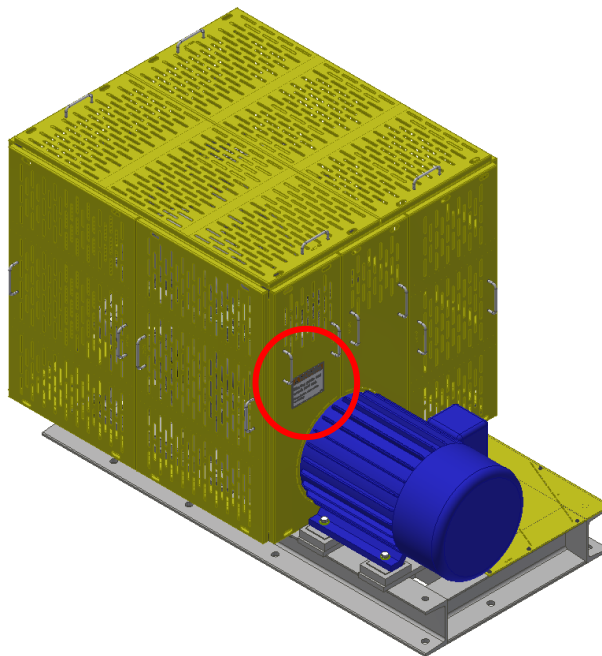

Figure 34: Attach Warning Label
- Attach self-adhesive Warning Label (p/n P-184) to one of the Machine Guard Motor Panels in similar location as illustrated below (Figure 34).